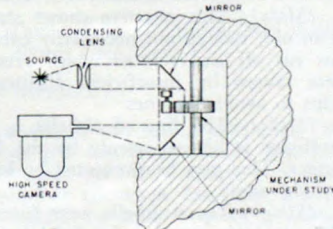

fig. 3
3. Subject: A cam rotating at high speed and the cam follower, to check the failure of the cam follower to maintain contact with the cam through each revolution. At times a subject of this nature is so inaccessible that the usual high speed photographic methods with reflected light are impossible. In such cases one might install a simple contactor on the rotating shaft to synchronize the flash with the cam rotation to make single exposure shadowgraphs. One might use a collimated beam from an air spark—with mirrors, if necessary—to bring the light to the subject, there to record on film or paper placed close beside the cam. Alternately, one might replace the spark gap with a continuously burning spotlight and use a high speed motion picture camera to record the silhouette of the mechanism (figure 3).